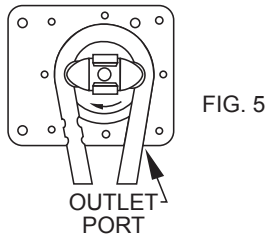

FIG. 5
9. Insert the tubing in the outer port (Fig. 5) and secure the cover.